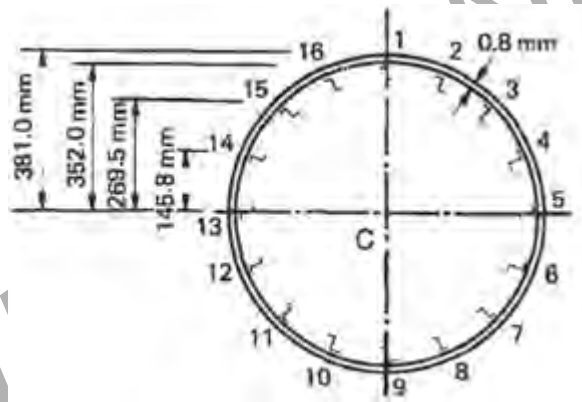

Figure 8:
8. A 762 mm radius circular cross-section fuselage having 0.8 mm skin thickness and 16 numbers of stringers equally placed around the circumference is shown in figure 8. The stringers numbers 1 and 9 are placed on y-axis, numbers 5 and 13 are placed on x-axis. The cross-sectional area of each stringer is 100 mm^2 and the vertical distance from mid line of the section wall to stringer number (1) is 381.0 mm, to (2) and (16), 352.0 mm, to (3) and (15), 269.5 mm, to (4) and (14), 145.8 mm. The fuselage is subjected to a bending moment of 200 kNm applied in the vertical plane of symmetry at this section. Calculate the direct stress distribution. [16]